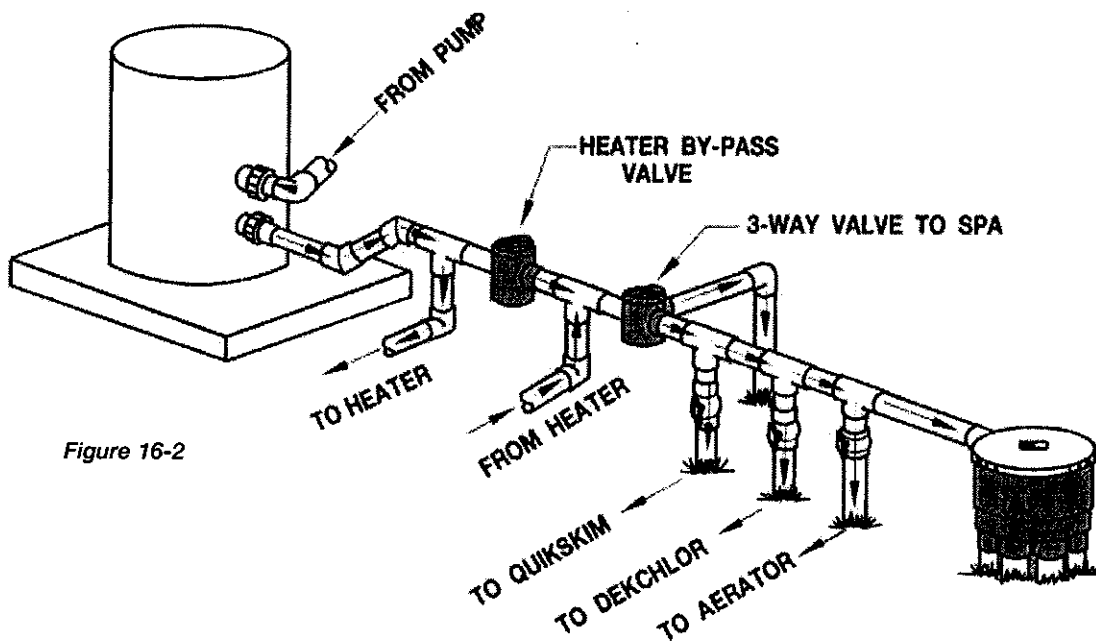

Figure 16-2
2. Determine the length of PVC pipe that is required to continue the feed line into the Water Valve so that it remains the same height as the rest of the manifold. (See Figure 16-2) Cut two pieces of 1-1/2" Schedule 40 PVC pipe to that length.